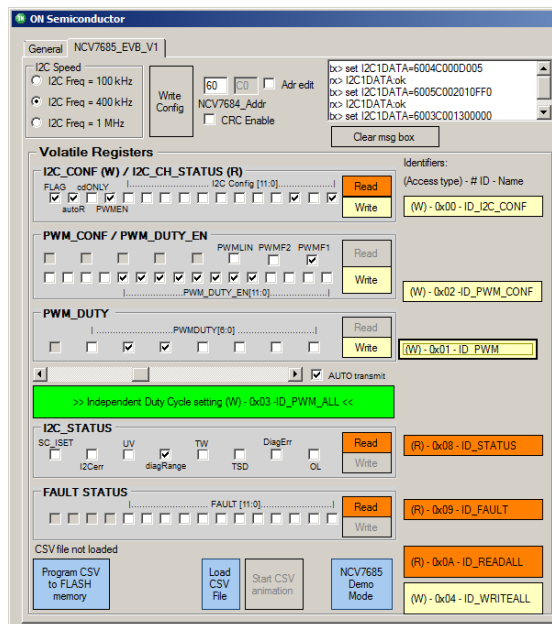
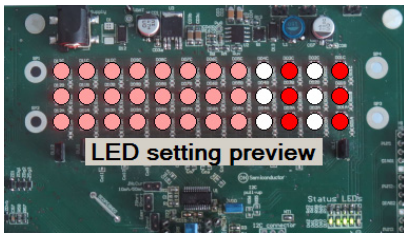

Figure 11. Test Register Setup
Figure 12. Expected Output Channel Intensity
15. To check the functionality, set the registers based on the Figure 11 screenshot. Then click on the “write” buttons: *ID\_I2C\_CONF*, *ID\_PWM\_CONF* and *ID\_PWM*. The expected output LED intensity is shown in Figure 12.